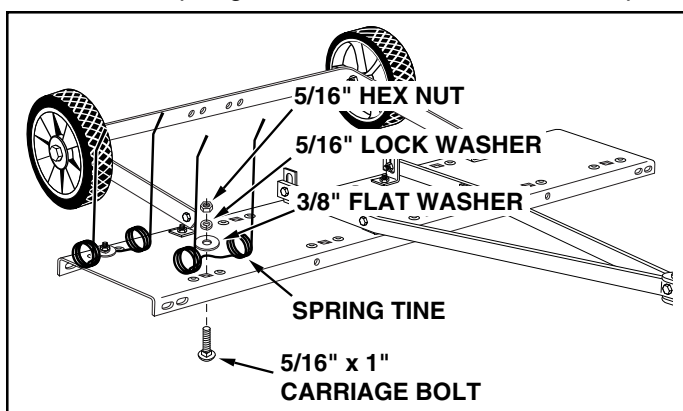

FIGURE 7
13. Fasten ten spring tines (twelve spring tines on the 48") to the square holes in the bottom of the tine shield. Use a 5/16" x 1" carriage bolt, 3/8" flat washer, 5/16" lock washer and 5/16" hex nut for each spring tine. **Tighten**. See figure 7. **NOTE:** Spring tines must seat between dimples.